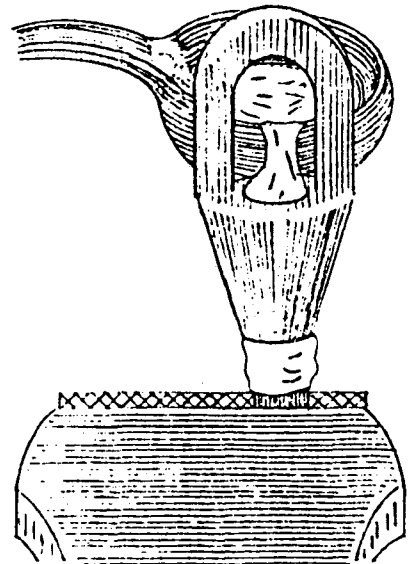

FIGURE 3-14
3. Pouring Zinc - Use only zinc not lower in quality than "high-grade" per ASTM Spec B-6 (Zinc Metal). Heat zinc to a range of 850°F to 1000°F. Skim off any dross which may have accumulated on the surface of the zinc bath. Pour pure molten zinc into the socket basket in one continuous pour, if possible (Figure 3-14). Tap the side of the socket with a light hammer, while pouring, to jar the zinc into the crevices between the wires. A small quantity of sal ammoniac crystals put over the wires just prior to pouring the zinc will help the flow of the zinc into the smaller crevices at the bottom of the socket.